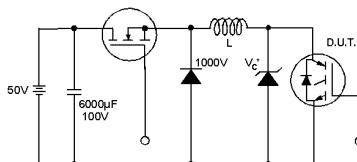

Fig. 19 - Clamped Inductive Load Test Circuit
② $V_{CC} = 80\%(V_{CES})$, $V_{GE} = 20\text{V}$, $L = 10\mu\text{H}$, $R_G = 10\Omega$, (See fig. 19)
③ Pulse width $\leq 80\mu\text{s}$; duty factor $\leq 0.1\%$.
④ Pulse width 5.0 μs , single shot.